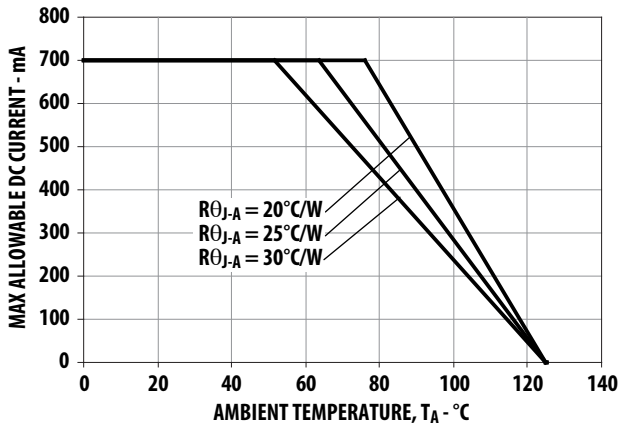
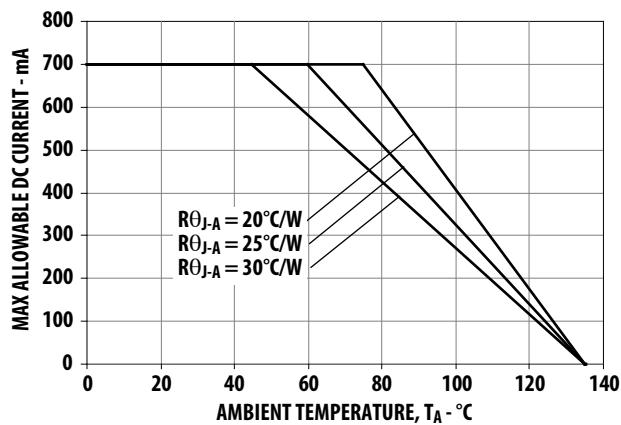

Figure 10. Maximum Forward Current vs. Ambient Temperature. Derated based on T_{JMAX} = 125 °C, R_{θJA} = 20 °C/W, 25 °C/W and 30 °C/W.
Figure 20. Maximum Forward Current vs. Ambient Temperature.
1. Derate linearly based on Figure 10 for AllnGaP and Figure 20 for InGaN.